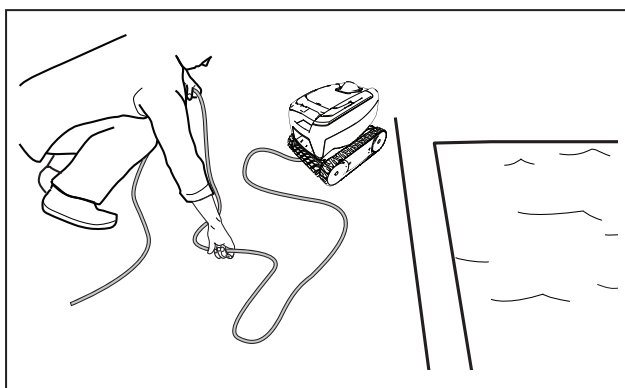

Figure 13. Untangle the Floating Cable
2. Remove the cleaner from the pool and untangle all kinks and coils in the floating cable starting at the cleaner head (Figure 13).